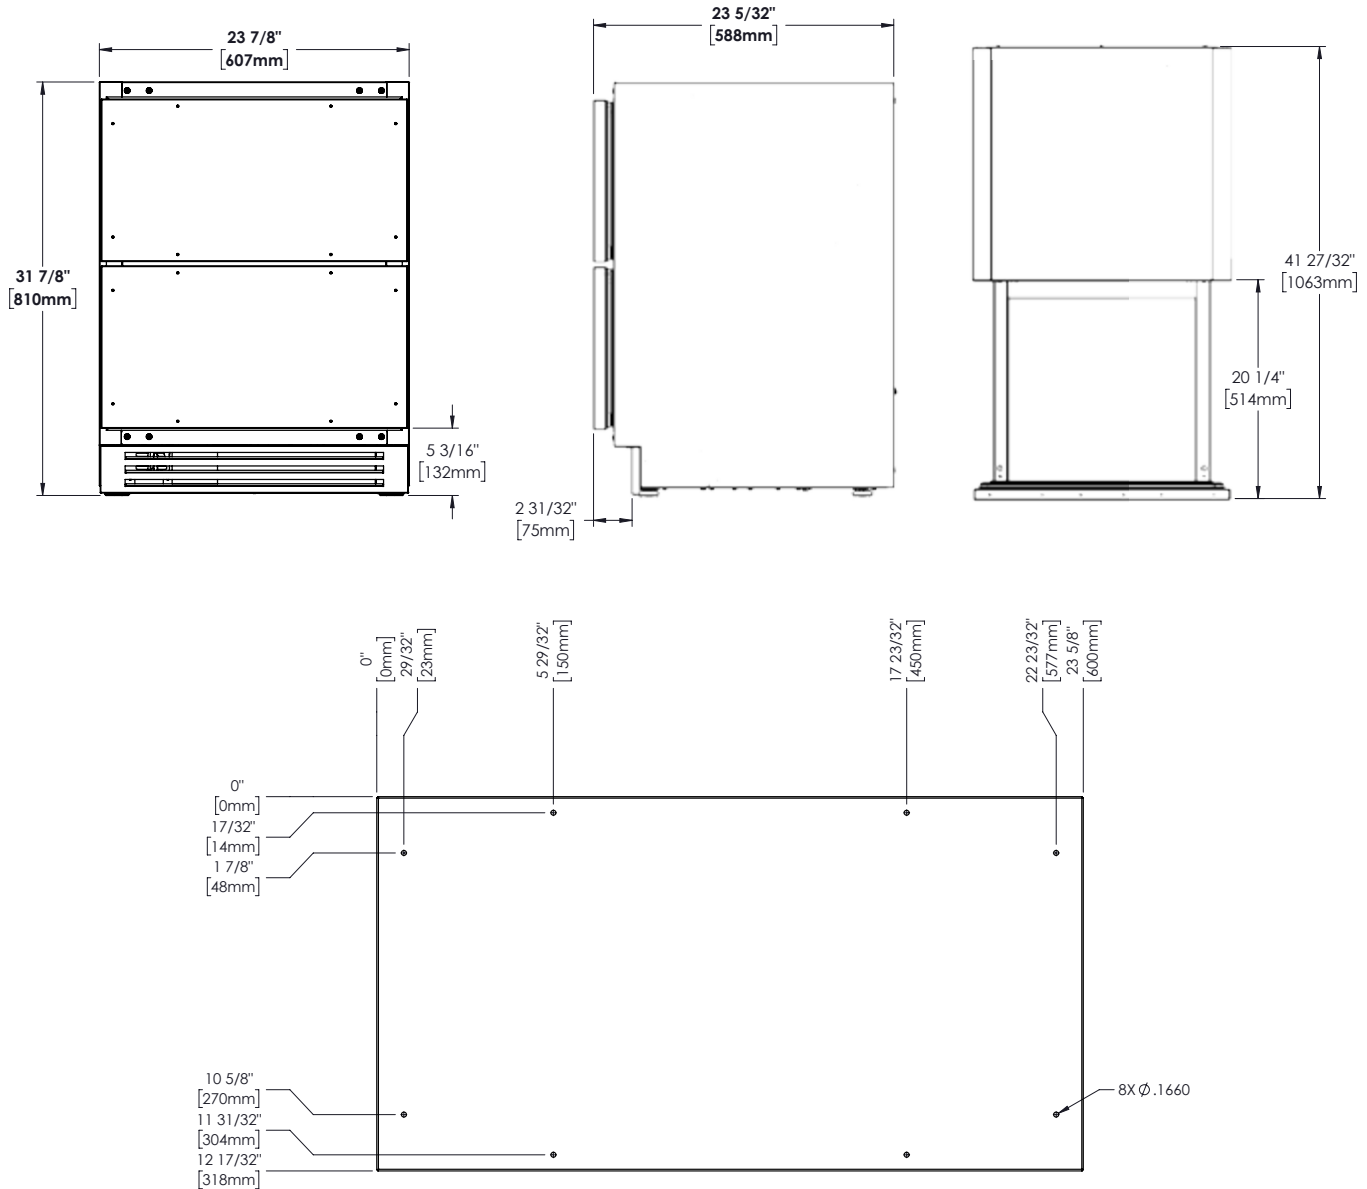

FIG. 2. Drawer front pre-drilled hole locations and measurements.
- Drawer fronts have pre-drilled holes to assist overlay panel installation. See fig 2.